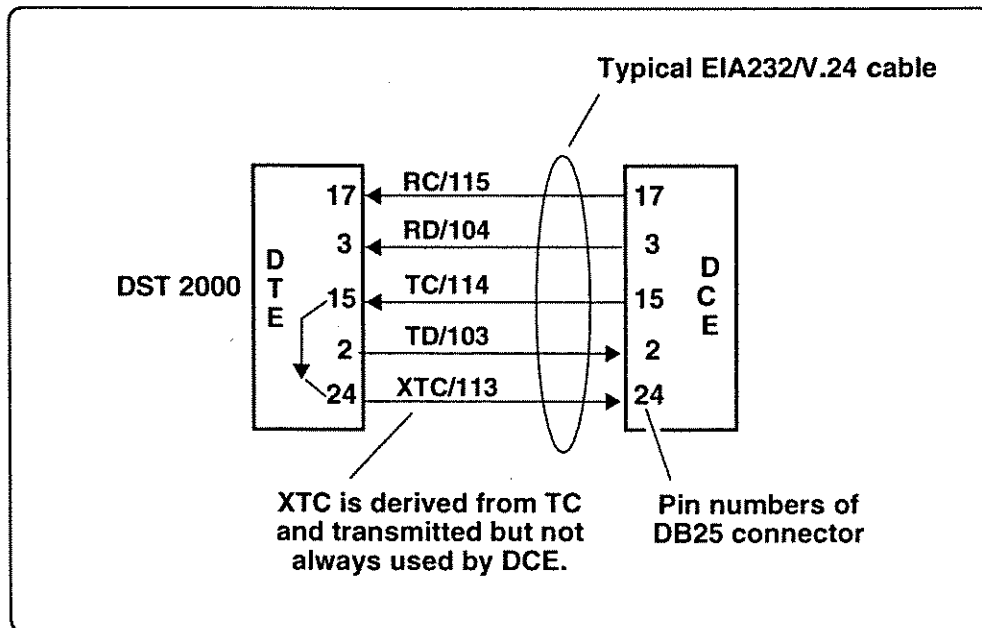

Figure 2. DTE Emulation, Option 1
When configuring the DST 2000 for DTE emulation the RX Clock, used for sampling the received data (RD) could be either DCE provided (RC), Internal or External. The TX Clock is always XTC. The TX Clock source can be either "Interface" (TC from the DCE), "Internal" or "External". Figures 2, 3 and 4 depict each of these configurations.